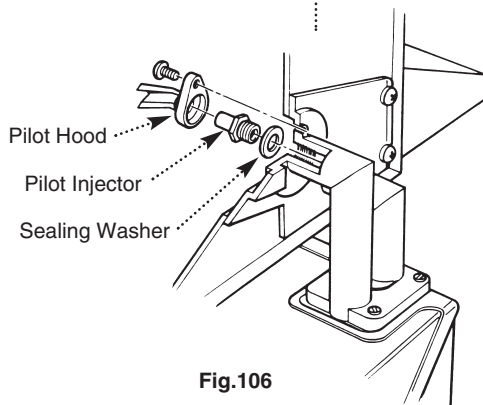

Fig. 106
4. Release the screw securing the pilot hood and remove (Fig. 106).
5. Carefully remove the pilot injector (Fig. 106). Examine and clean it as necessary. Do not use a wire or pin to clean the injector orifice.
6. Examine the sealing washer (Fig. 106) and replace if it is damaged in any way. Reassemble in reverse order.
7. Replace all components in reverse order ensuring that the flexible tubes from the fan unit to the pressure switch are routed correctly and that they are not kinked or flattened (107).